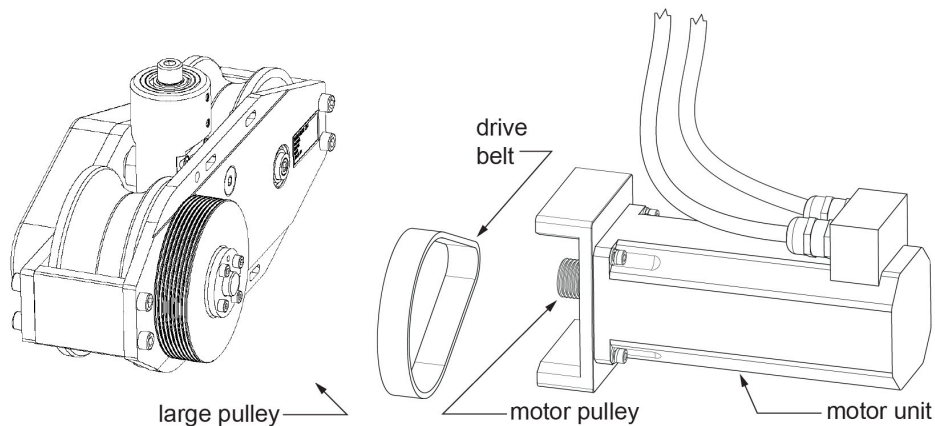

Figure 20 - Attaching the Drive Belt
- Align the motor unit to the drive wheel unit, placing the drive belt over the motor pulley. Ensure the belt is centered on the motor pulley and that the motor unit is oriented as shown in **Figure 20**.